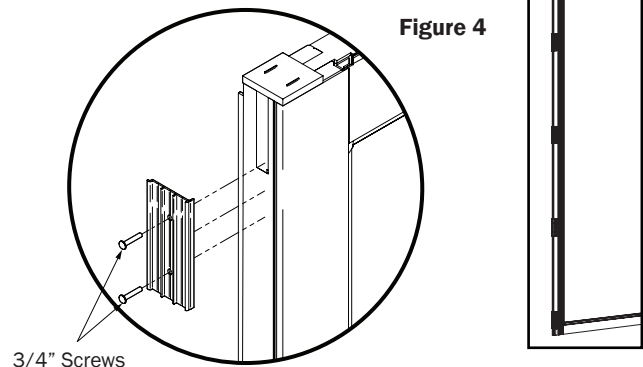

Figure 4
5. Attach the clad cover brackets with the provided #7 x 3/4" Flat Head screws (Fig. 4). Space brackets evenly.